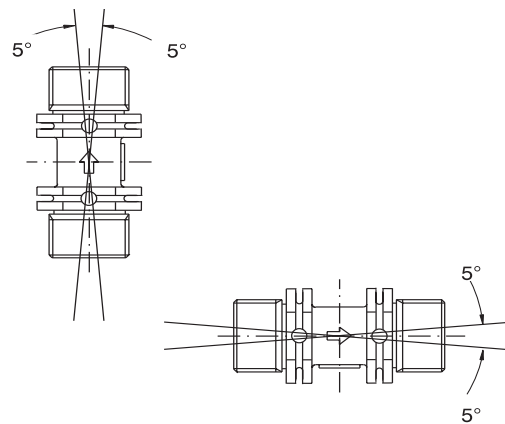

Fig. 6. Mounting position for C7195B
- Recommended position for C7195B is vertical (fig. 6), although horizontal is allowed